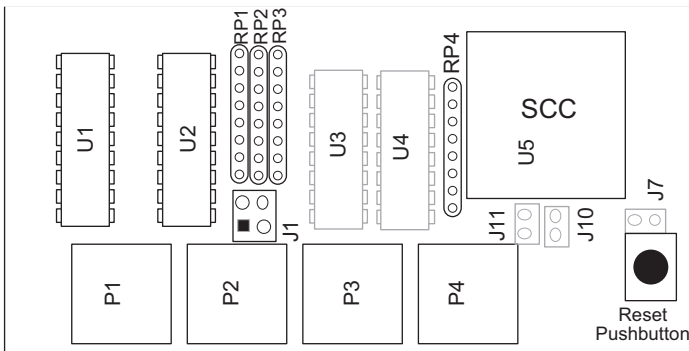

Figure 2-1. Location of Driver Chips and Serial Ports
2. Check the drivers in positions U1, U2, U3, and U4. The factory-installed LT1180 chips at U1 and U2 support RS-232 communication at P3 and P4. To enable the RS-485/RS-422 ports at P3 and P4, remove the LT1180 drivers from U1 and U2, and install a 75175 in U3 and a 75174 in U4. Figure 2-1 illustrates the locations.